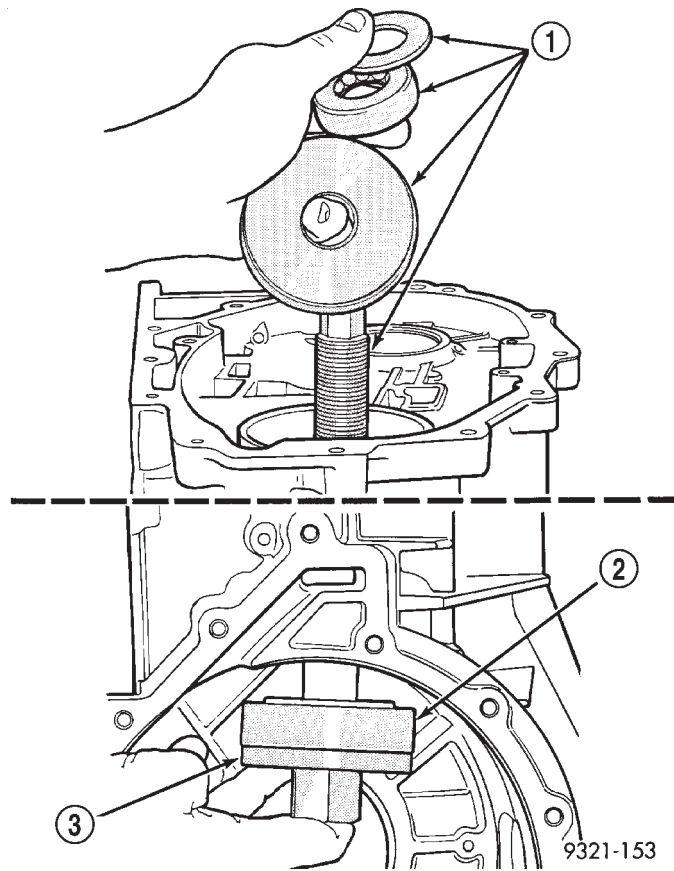

Fig. 389 Install Front Transfer Shaft Cup
(1) Install front transfer shaft bearing cup (Fig. 389). The transfer shaft bearing cup must be installed before making pinion depth measurement. Use special tool 6494 to install bearing cup. There are no shims located behind this bearing cup.